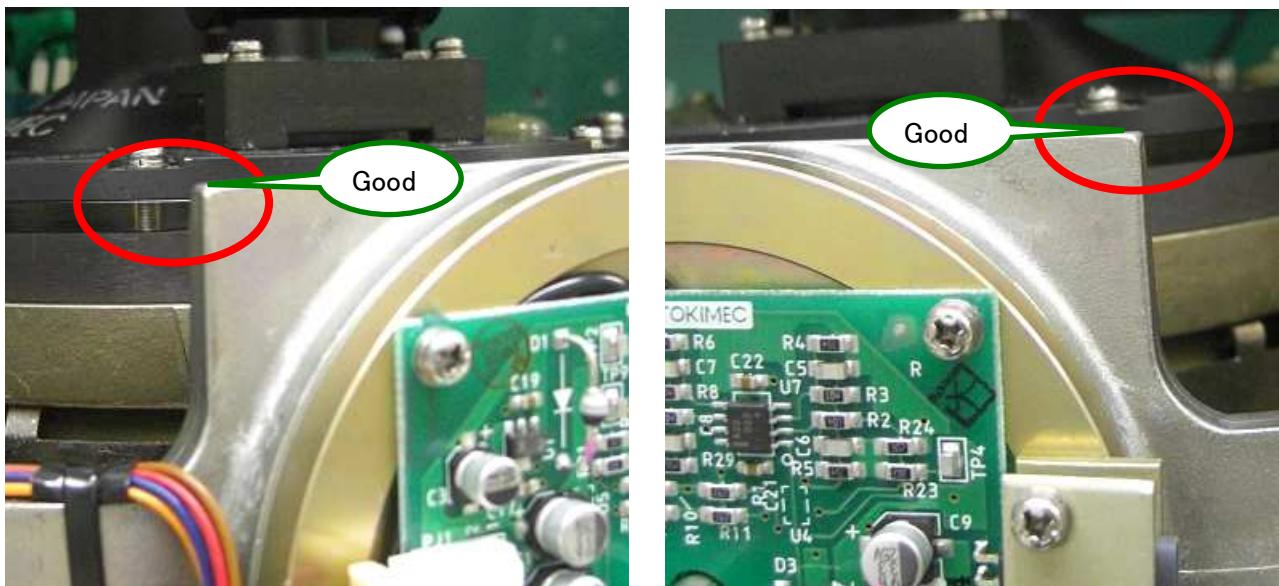

Fig. 2-24 Good alignment of sensitive element at the beginning of leveling mode
- Sensitive element inclination angle is small enough as shown in Fig. 2-24.